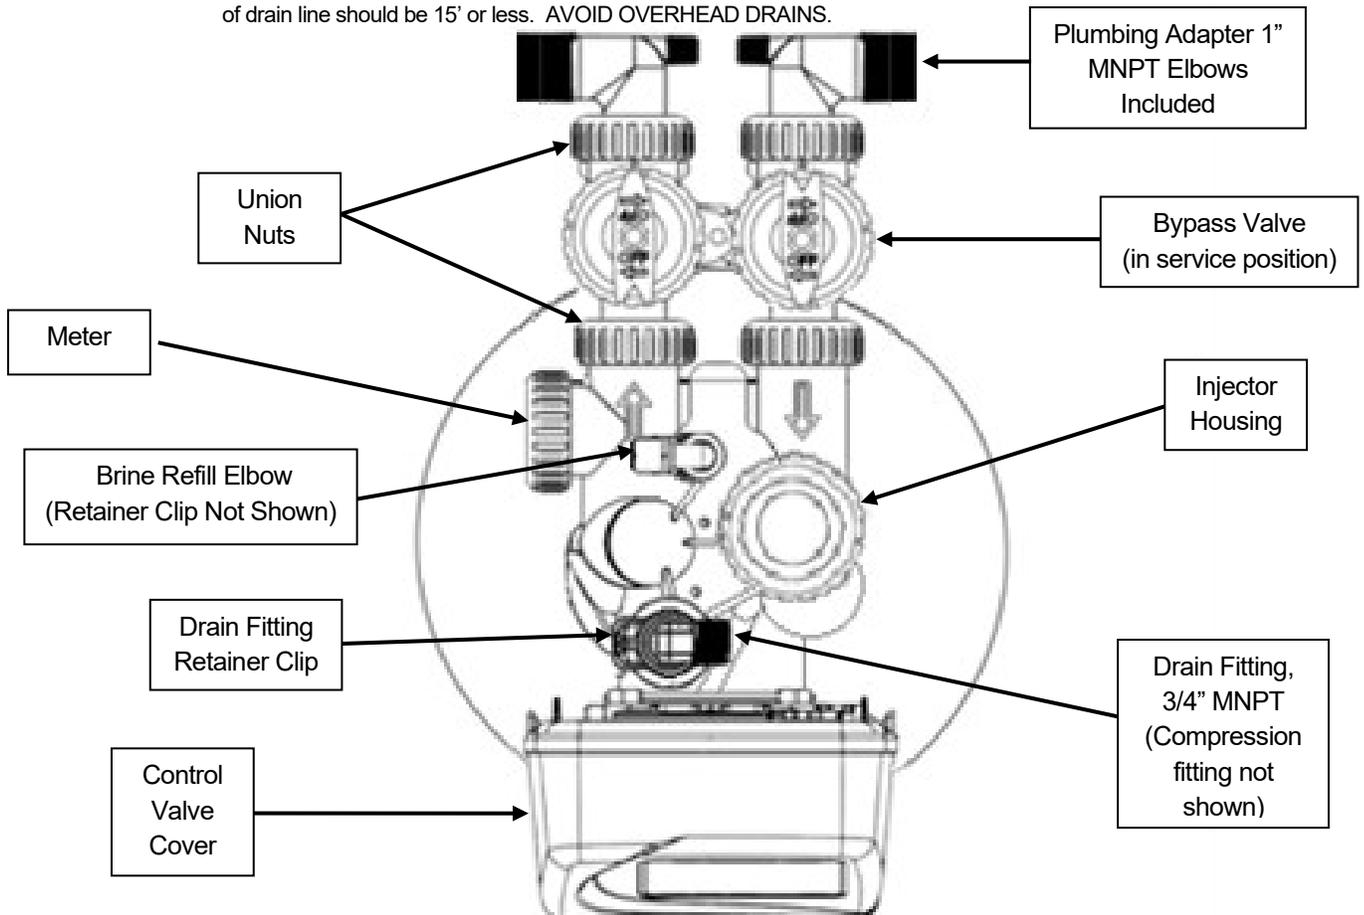

FIGURE 2: Top View of Control Valve
- STEP 2:** Using the integrated coupling nuts, attach the bypass valve to the inlet/outlet of the control valve and put handles in the bypass position (Figure 2).
- STEP 8:** Use the provided polyethylene tubing (**NO VINYL TUBING**) to run drain line from control valve drain fitting (Figure 2) to floor drain or sump pit capable of handling the backwash rate of the softener (refer to specifications on Page 11). **THE DISCHARGE END OF THE DRAIN LINE MUST BE FIRMLY SECURED!** There must be an air gap at the end of the drain line to prevent siphoning of wastewater and meet plumbing code. Total length of drain line should be 15' or less. **AVOID OVERHEAD DRAINS.**
- STEP 9:** Connect one end of the 3/8" brine line to the control valve quick connect brine refill elbow (Figure 2, Page 5). Insert the other end of the brine line through the hole in the brine tank and into the quick connect fitting on the top of the safety brine valve (Figure 3). Remove the quick connect collet retainer clip (if included) before inserting the brine line into each fitting, press the tube in very firmly and replace the retainer clip behind the collet. **NOTE: THE BRINE TUBING SHOULD BE INSERTED 5/8" INTO THE FITTING. DO NOT PUT SALT INTO THE BRINE TANK AT THIS TIME.**
- STEP 12:** Place the bypass valve in the "Service" position (refer to Figure 2, Page 5; Figure 4, Page 7) and open main supply valve or turn on power to pump on private well systems. Allow the unit to fill with water and pressurize, then place the bypass valve in the "Bypass" position.
- STEP 14:** With the bypass valve in the “Bypass” position (refer to Figure 2, Page 5; Figure 4, Page 7), press and hold the REGEN button until the motor starts. Then use the REGEN button to advance the control valve to the BACKWASH cycle (refer to page 10 for details) to release pressure and purge air from the mineral tank.